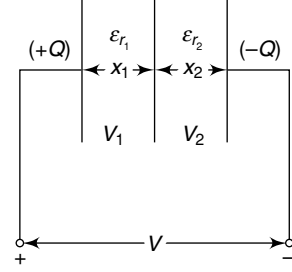

Fig. 1.18 *Parallel-plate capacitor with composite dielectric*
Let us assume a parallel plate capacitor with two different dielectrics having relative permittivities ϵ_{r_1} and ϵ_{r_2} . The separation of plates are x_1 and x_2 metres, as shown in Fig. 1.18. The plates are of identical cross-sectional area (A) square metre and the charge accumulated in the capacitor is Q coulombs when a p.d. of (V) volts is applied across the capacitor terminals.